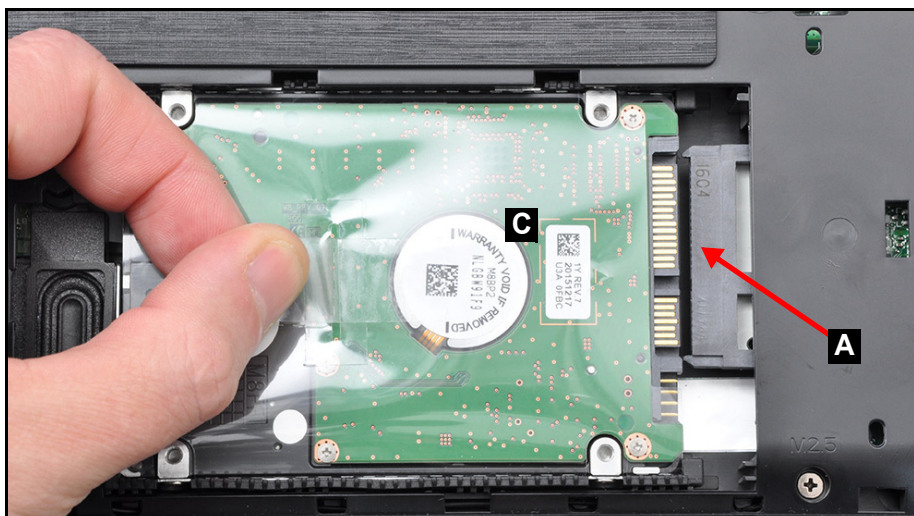

Figure 3-10. HDD Module Removal
2. Grasp and remove the HDD module (C) from the mainboard connector (A) (Figure 3-10).